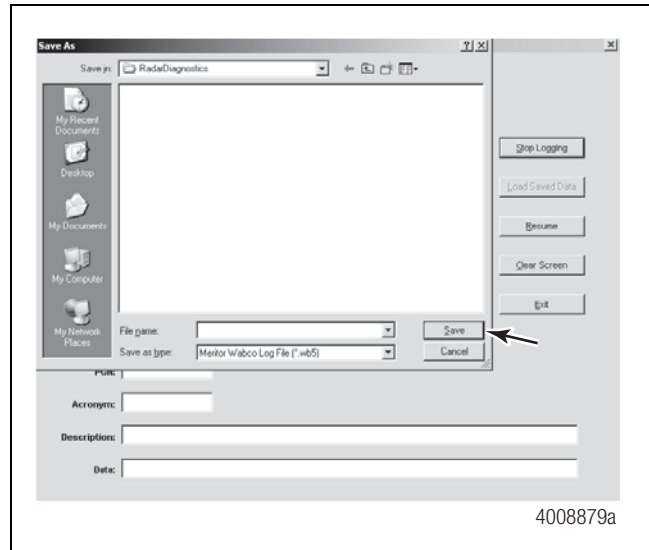
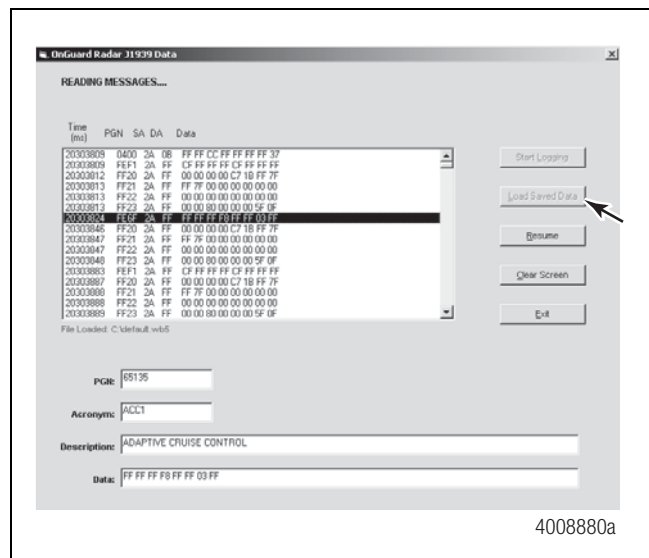

Figure 2.13
Figure 2.14
3. A “Save As” screen will then come up asking you to name the file and select where it will be saved. Figure 2.13. Specific messages can also be viewed after saving the file by clicking on “Load Saved Data”, and then highlighting the desired message. Figure 2.14.